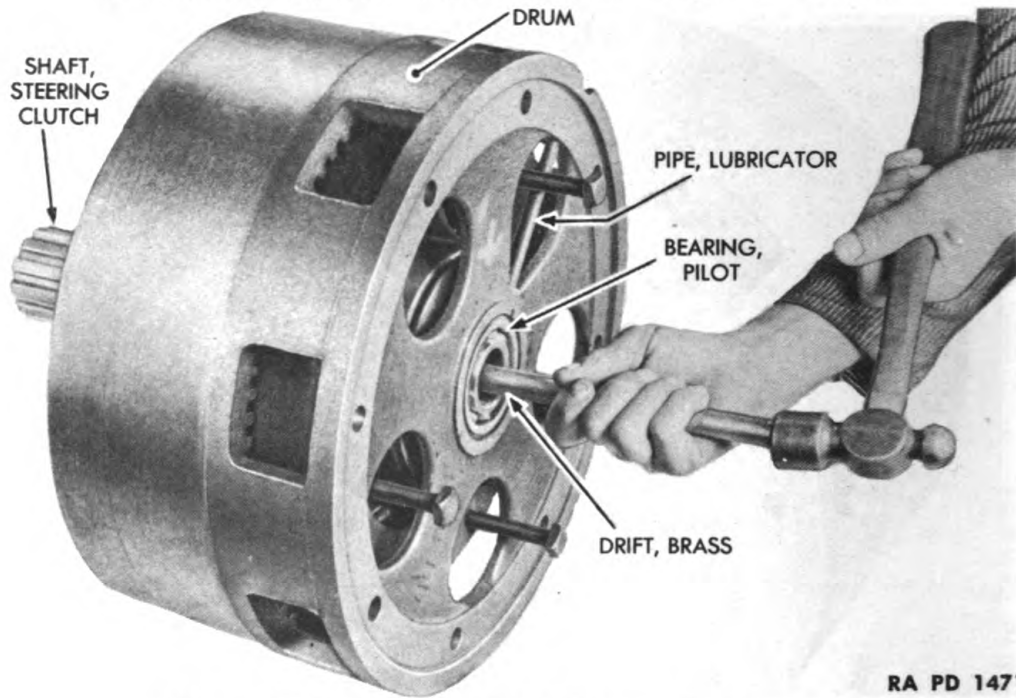

Figure 100 — Driving Out Steering Clutch Shaft
(6) DRIVE OUT STEERING CLUTCH SHAFT (fig. 100).
(7) TAP OUT PILOT BEARING FROM DRUM (fig. 100).
(8) REMOVE LUBRICATOR PIPE AND LUBRICATOR (fig. 100).